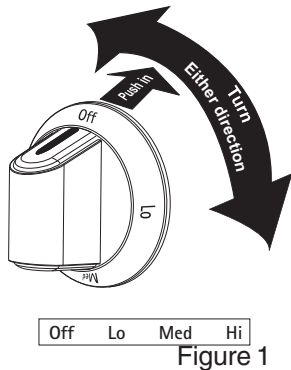

Figure 1
1. To set the control, push in and turn the knob. (Figure 1) The temperatures are approximate, and are designated by HI, MED and LO. However, the control can be set at any position between HI and LO for different levels of heating.